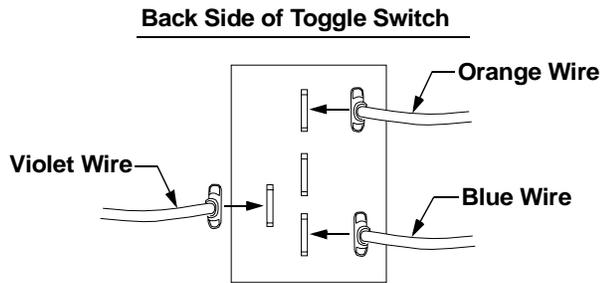

Figure 4
- Connect the three female terminals at the dash end of the wire harness to male terminals on the back of the toggles switch as shown in Figure 4.